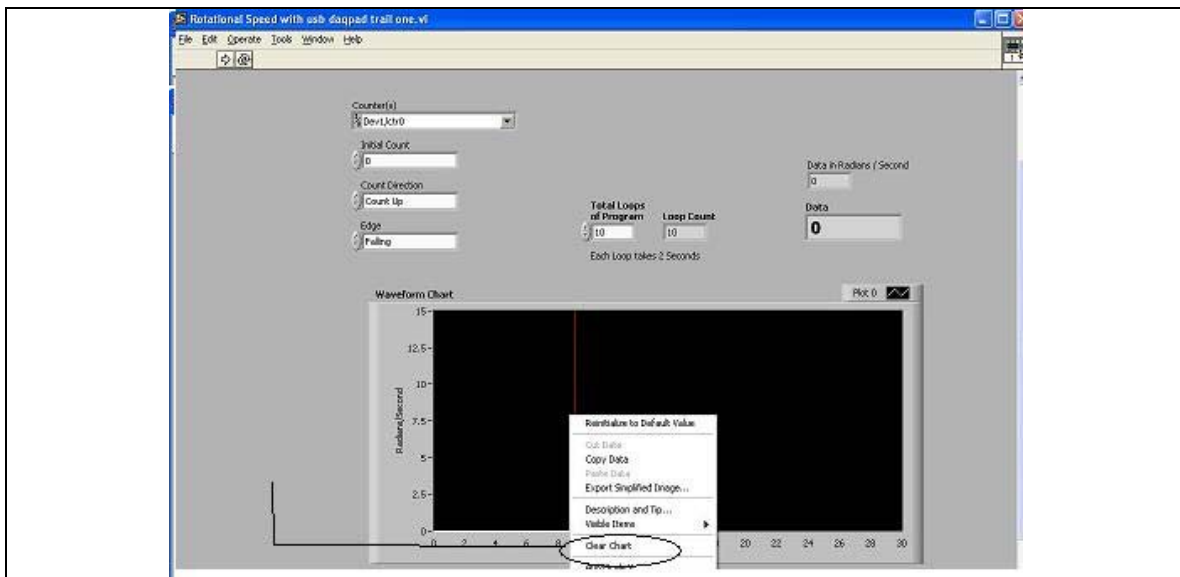

Figure 2S
2. Right click your mouse over the black portion of the chart and select *clear chart* (see Figure 2S below) this will clear the previous data from the chart.